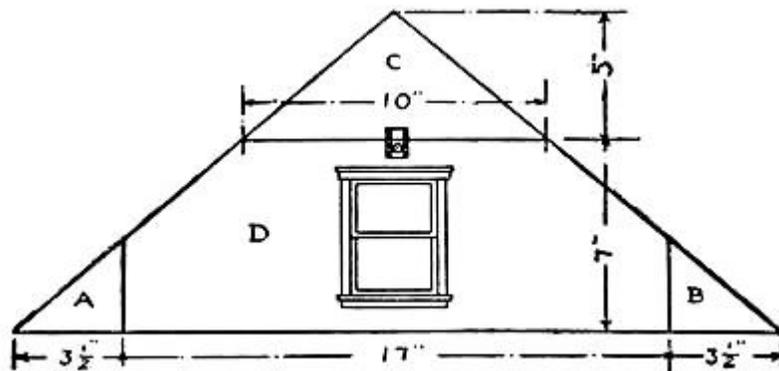

FIG. 116.—Front Gable-end.
**The Gable-end** is made in four pieces, as shown in Fig. 116, *A*, *B*, and *C*, to be nailed in place, and *D* to be movable as in the case of